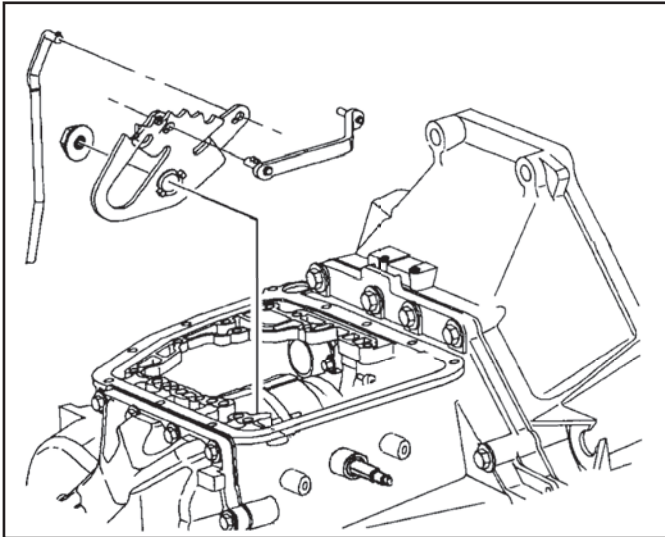

Figure 213
47. 1994 vehicles with VIN # RZ141472 and higher will not have a roll pin that attaches the manual shaft to the detent lever. A retaining nut is used in its place as shown in Figure 213. The installation process is the same as described above. When the nut is installed, torque the nut down to 12 N·m (106 in. lbs).